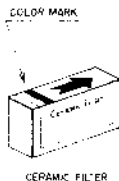

Fig. 3
- 2) Connect Genescope Output to point (1) (FM IF Input), and Genescope Input to point (5) (AF Output).
- 5) In making this adjustment, in some cases the rank of the ceramic filter causes a discrepancy in the S Curve Marker Point, but it is satisfactory if through adjustment a margin of within 1500 Hz can be obtained (See Fig. 3).